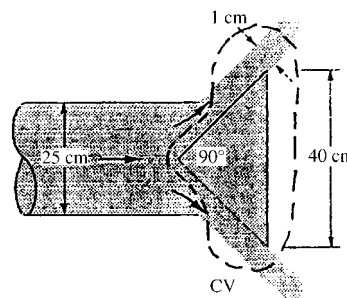

Fig. P3.84
**3.84** Air at  $20^\circ\text{C}$  and  $1 \text{ atm}$  flows in a 25-cm-diameter duct at  $15 \text{ m/s}$ , as in Fig. P3.84. The exit is choked by a  $90^\circ$  cone, as shown. Estimate the force of the airflow on the cone.